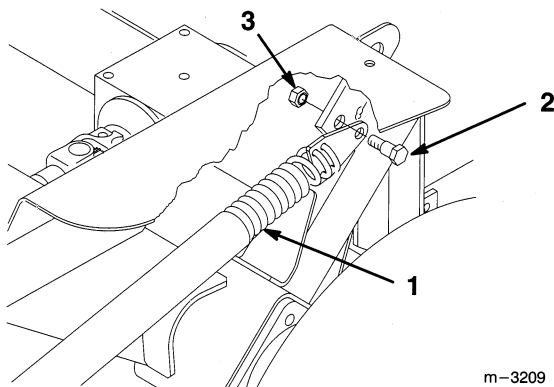

Figure 4
1. Secure spring end plate assembly to traction unit with 3/8" x 7/8" (23 mm) shoulder bolt and 3/8" locknut (Fig. 4).